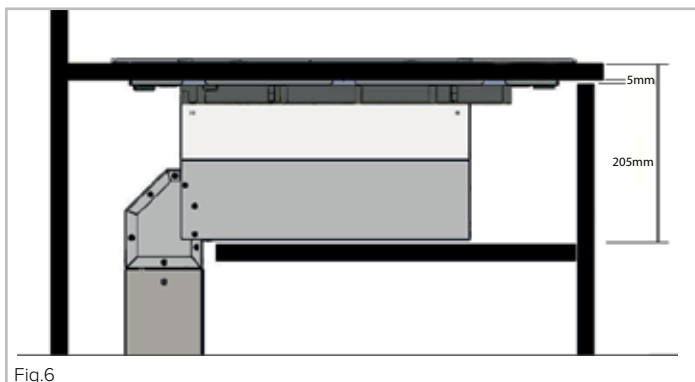

Fig.6
This appliance must be installed to allow air to flow freely to the air intakes and from the air outlet. An air gap of 205mm is recommended immediately below the hob (this takes into account the depth of the air box), and a 5mm minimum gap in the worktop, as per Fig. 6.
We recommend fitting this appliance within a 900mm or 1000mm base unit. Ensure that the unit you fit the appliance within does not hamper or foul the ventilation fans on the underside of the hob(s). A minimum gap of 50mm all around the underside/edges of the hob (with the exception of the air box area, Fig. 6) applies. Normally, your unit will need a 410mm x 410mm hole for the motor box (Fig. 8).
- **If the appliance is to be located above an accessible unit or working drawer(s), a partition panel must be fitted first, as per Fig. 6 on page 32.**